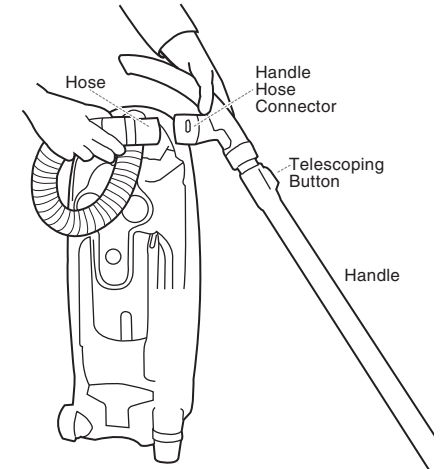

Fig. 14
- Insert hose into handle hose connector and twist clockwise to lock in position. (Fig. 14)
- Push button on wand to extend telescoping wand. (Fig. 14)